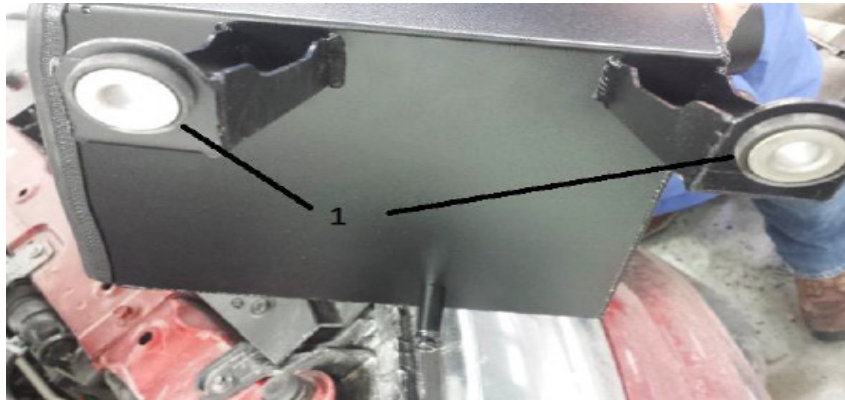

Figure 3
- Remove the rubber grommets and metal standoffs from factory airbox housing and install into the new box assembly legs (1 in Figure 3).